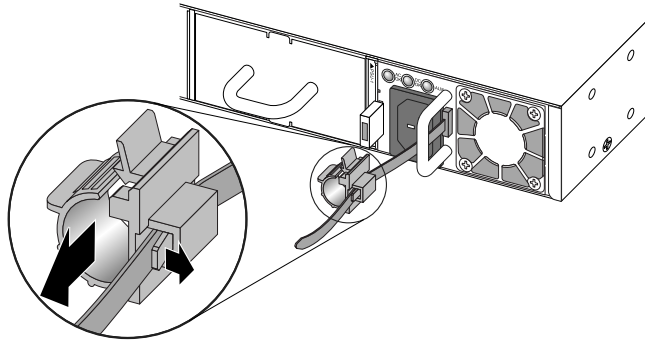

Figure 236: Moving the Power Cord Retainer
- a If necessary, slide the plastic cord retainer farther away from the back of the switch (Figure 236: Moving the Power Cord Retainer on page 270).